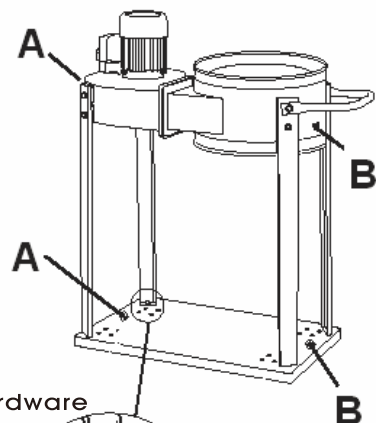

Fig 6.
5. Attach the legs to the base: Turn the motor-bag-support-leg assembly gently right side up and set it to the base. Locate the motor side (A, Fig 6) and the bag side (B) of the base. Note: the holes for the legs of the bag side (B) are closer to the casters.